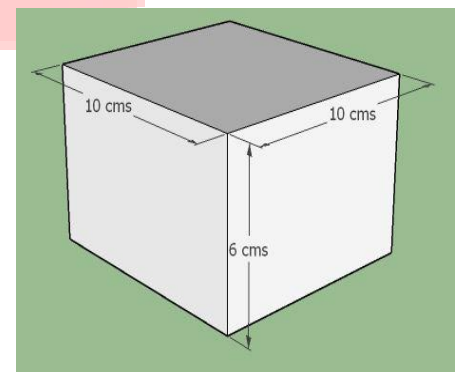

Figure 11: Block
- Prepare **21** thermocol blocks of dimensions **10cm x 10cm x 6 cm** as shown in Figure 11 (the same blocks are also used to prepare Cavities).